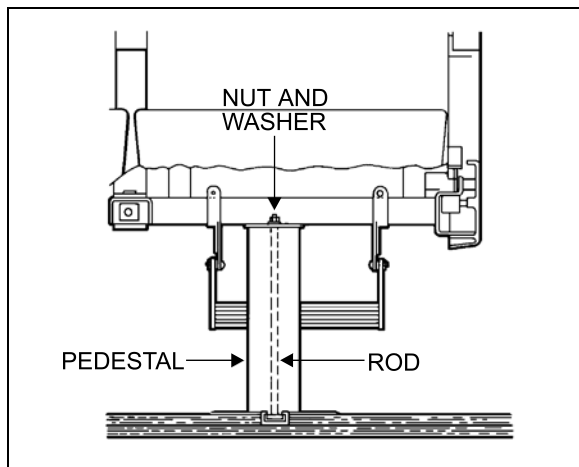

FIGURE 28: SEAT PEDESTAL ASSEMBLY
4. Remove 2 cap screws, nuts, and washers holding seat frame to side wall and retain the 2 holding brackets. See Figure 27 and Figure 28.